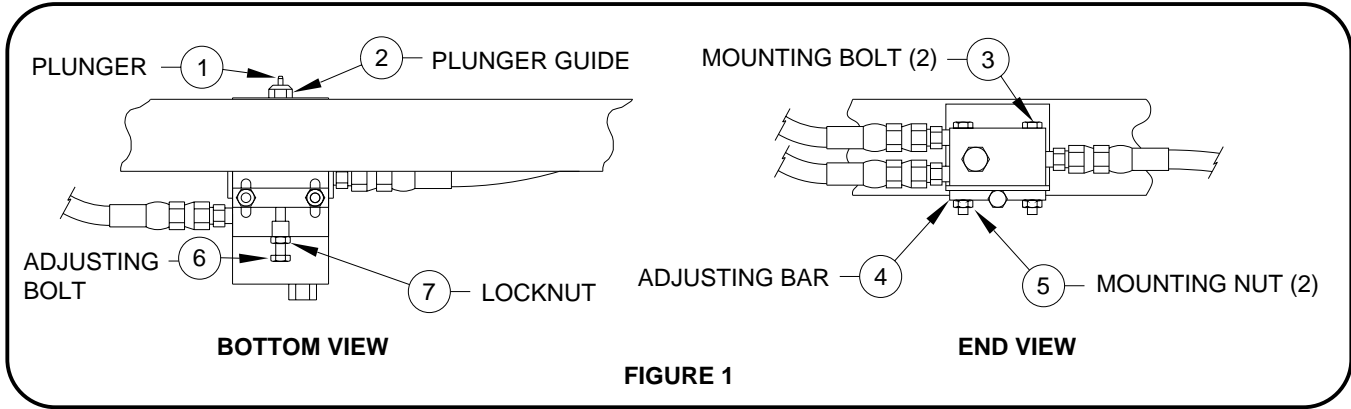
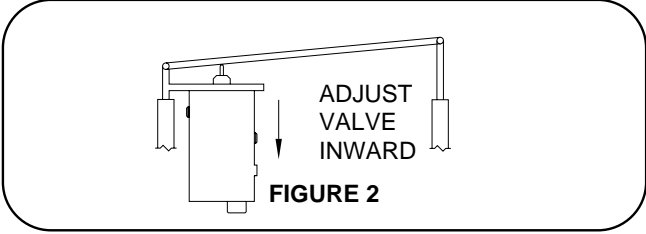

FIGURE 1
FIGURE 2
- Loosen the rack sensing mounting bolts. (3 & 4, FIGURE 1)
- Remove the adjusting bolt and lock nut. (6 & 7, FIGURE 1)
- Remove the three hydraulic lines from the valve. Remove the mounting bolts and valve adjusting bar. (5, FIGURE 1)
Adjust the valve so that approximately one half the plunger (1, FIGURE 1) is showing. Close the valve release "T" handles. Make the final adjustment of the rack sensing valve. (See the ADJUSTMENT procedure below). Tighten the mounting bolts and check for leaks and the fluid level in the power unit.
rack sensing valve in or out using the valve adjusting bolt. (6, FIGURE 1) Loosen the rack sensing valve mounting bolts (3&5, FIGURE 1) and the adjusting lock nut. (7, FIGURE 1) Do not tighten these until the adjustment is complete. Refer to FIGURE 2 or 3 depending on which side of the room is leading, for the proper adjustment of the valve.
If the valve side of the room is moving at a closer distance to the vehicle (FIGURE 2) turn the adjusting bolt (6, FIGURE 1) counter clockwise 1 turn. **NOTE :** If the difference is minor, less than 1 turn may be appropriate. Extend the room an additional 12 inches. Retract the room that 12 inches and check the measurement. Repeat this procedure as necessary. The difference in the measurement should be 1/2 an inch or less. Tighten the mounting bolts and adjusting lock nut when the adjustment is complete.